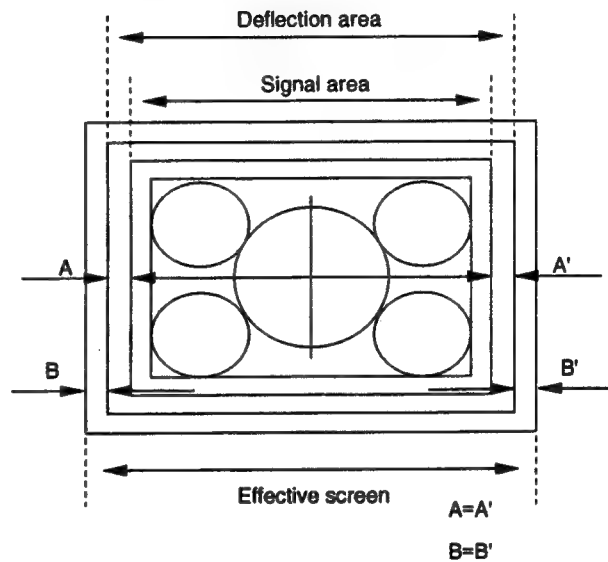

Fig.5-4
7. Adjust **[60 VIDEO PHASE]** so that the signal area will be in the center (A = A') of the deflection area. (Fig.5-4)